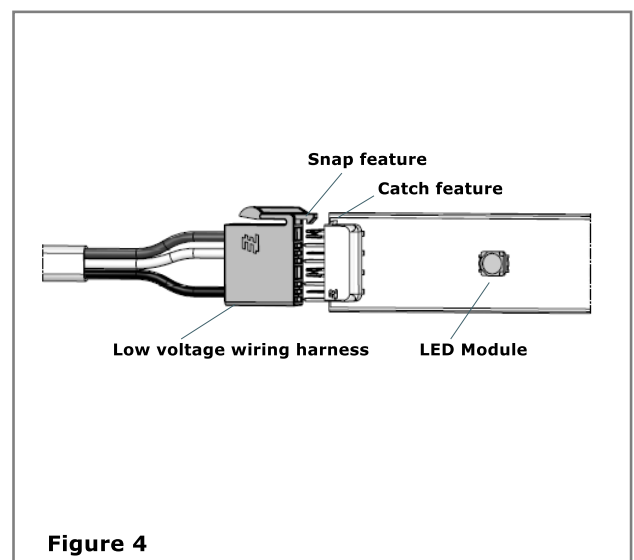

Figure 4
4. If not already connected, locate the low voltage wiring harness and plug into the first LED module making sure that it is aligned with the connector on the module. The snap feature on the wiring harness connector should lock on the connector catch on the module. **See Figure 4.**